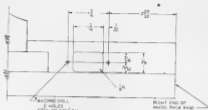

FIGURE 4-HOLES TO BE PROVIDED FOR MOUNTING ECHO SWITCH
2. Drill holes for echo switch in music rack base as shown in figure 4. Replace music rack and other parts. Mount echo switch.